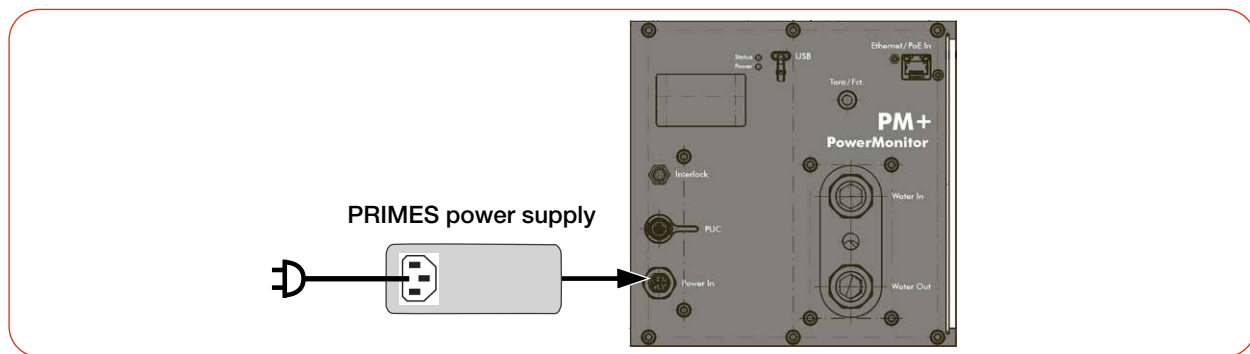

Fig. 8.2: Power supply via PRIMES power supply, display of the measured values on the device
- Power is supplied via the PRIMES power supply with 24 V ± 5 % (DC).
- ▶ Connect the PRIMES power supply according to Fig. 8.2 on page 26.